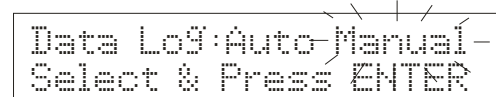

Figure 171
4. Press  $>/CAL$  key to toggle between **Data Log Auto** and **Manual**. The selection will flash. See **Figure 171**.